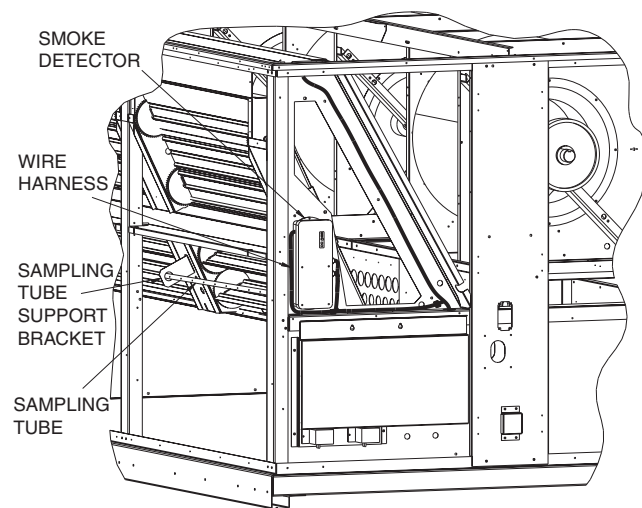

Fig. 4 — Smoke Detector Installed (48/50A020-060)
10. Mount the sampling tube support bracket to the cross member with two 1/4 AB-14 5/8-in. screws as shown in Fig. 4. Insert snap bushing into hole in bracket.
13. Attach smoke detector to partition using two, 8-18 3/4-in. pan head screws. See Fig. 4.